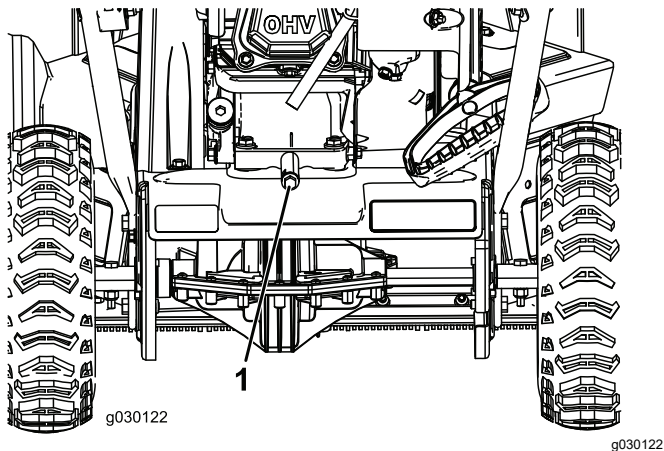

Figure 17
2. Place an oil-drain pan under the oil-drain plug, remove the oil-drain plug, and tip the machine backward and drain the used oil in the oil-drain pan (Figure 17).